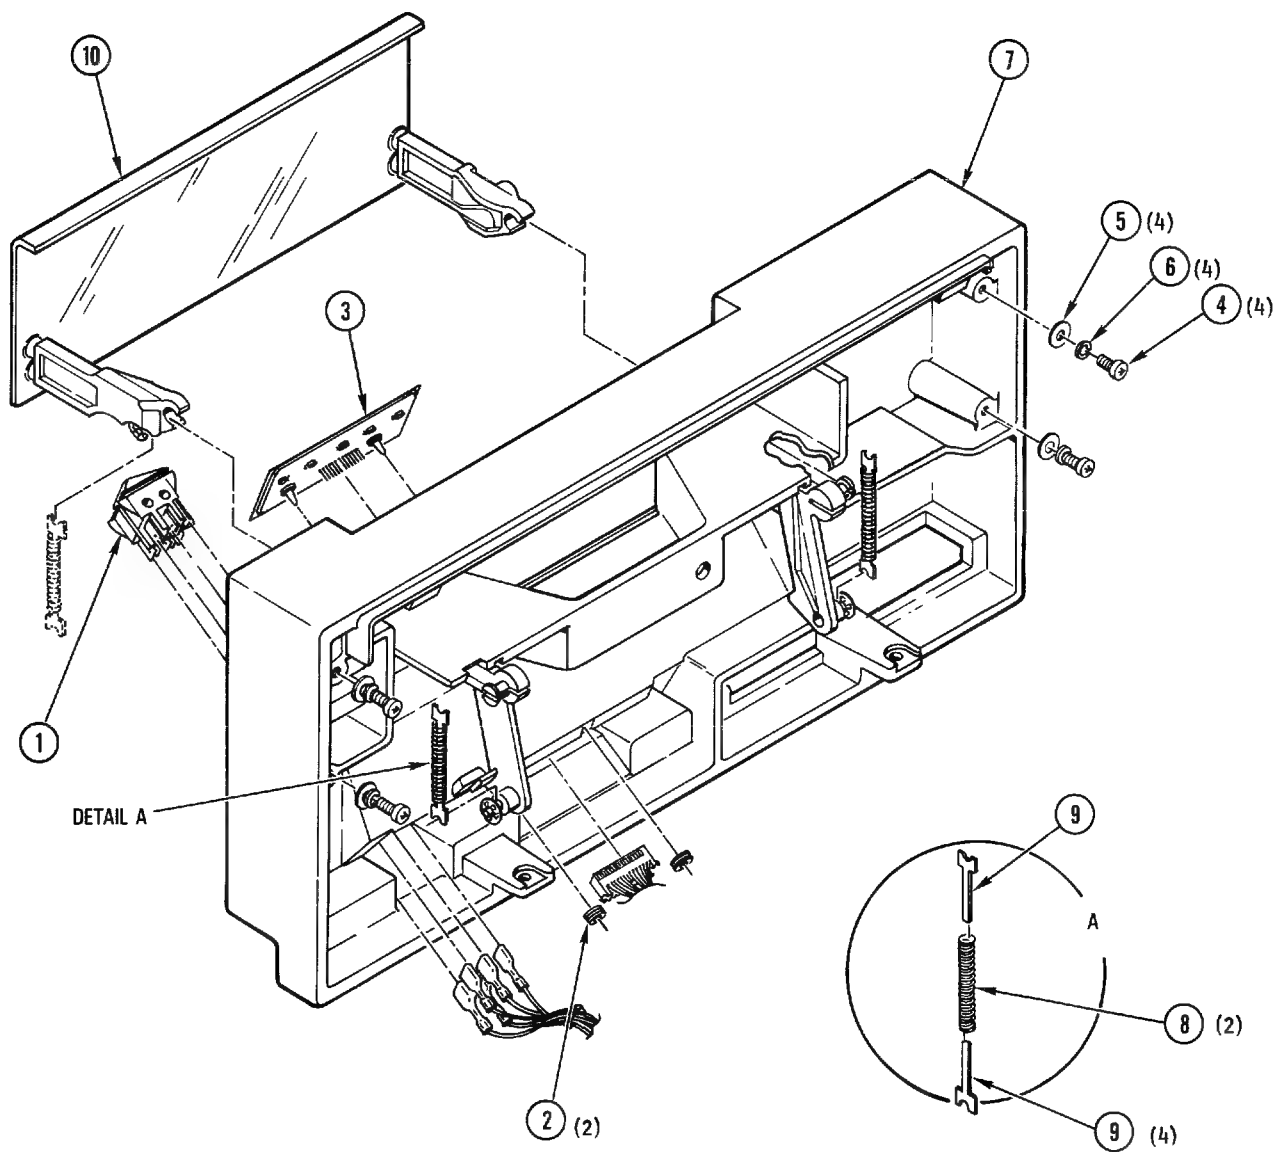

Figure 4-7. Front Panel Assembly
4-19. Power Switch Replacement. To replace the power switch (I, Figure 4-7), proceed as follows:
4-20. Touch Switch Replacement. To replace the touch switch (3, Figure 4-7), proceed as follows:
4-21. Front Panel Subassembly Replacement. To replace the front-panel subassembly (7, Figure 4-7), proceed as follows:
4-22. Removal And Replacement of Door Assembly. To replace the door assembly (10, Figure 4-7), proceed as follows:
- b. Remove two springs (8) and four guides (9), and push door out of front panel, using finger pressure on back of door from under side of panel.
- c. Install door assembly in front panel subassembly by snapping arms onto plastic studs of front panel assembly, as indicated in Figure 4-7.
- d. Assemble guides (9) with springs (8), with flat surfaces of guides in contact with each other.